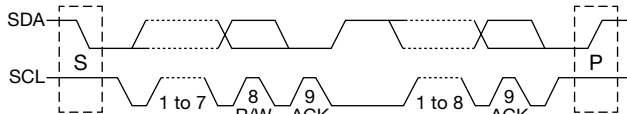

Fig. 2 - I²C Protocol
A data transmission begins with a START (S) condition, a 7-bit slave address with the read / write designator (R/W), an acknowledge (ACK) bit, 8-bit data following the acknowledge (ACK) bit, and a STOP (P) condition, as shown in Fig. 2.